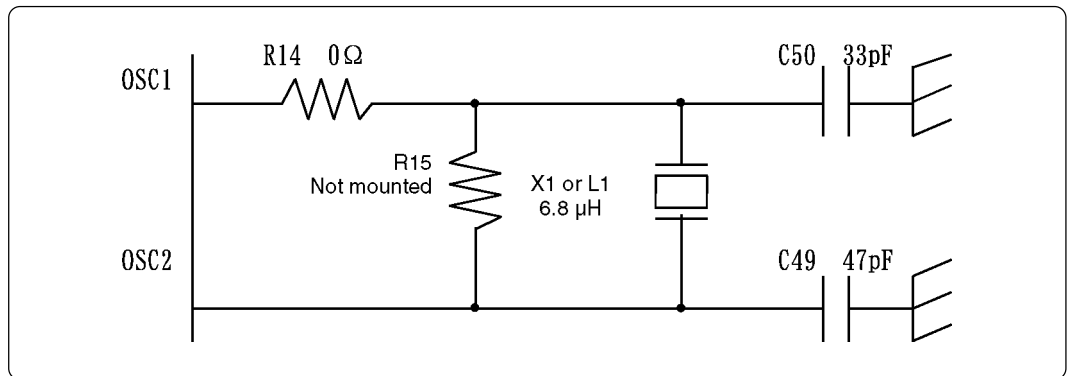

Figure 4.11 OSC1, OSC2 signal circuit
(4) Figure 4.11 shows the part numbers and the constants of the parts of the signal OSC1, OSC2.